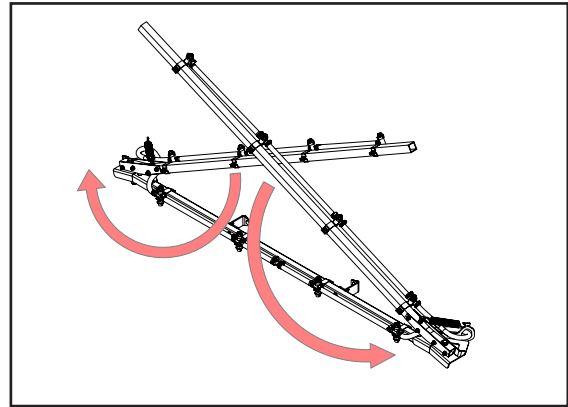

Figure 1: Unfolding the boom
1. Unfold the boom by pulling the boom wings toward the rear of the sprayer as shown (Figure 1). Note: Do not pull on the boom hoses or nozzle bodies when unfolding, as this could cause damage to the components.